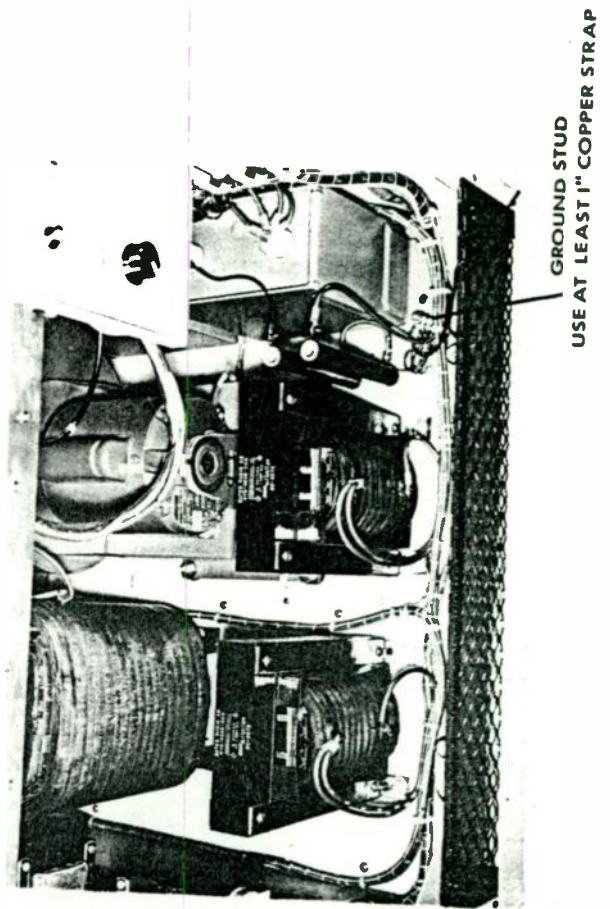

FIGURE 3
4. Connect at least 1" copper ground strap (see Page 7, Fig. 3). This ground strap should connect directly to the main antenna ground system where all radials terminate under the tower. This is a very important connection and should be done well and complete.